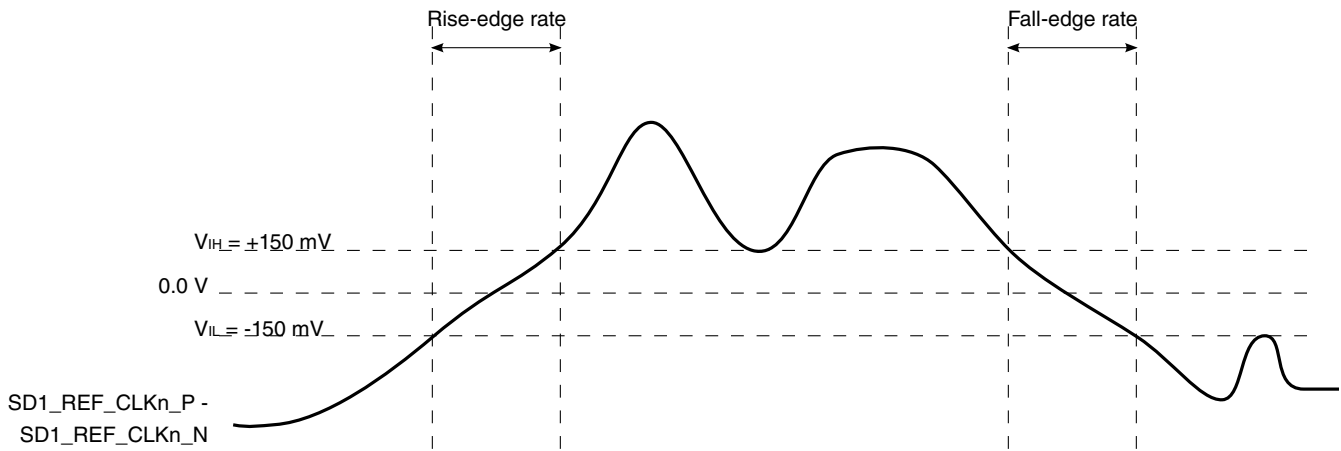

Figure 93. Differential measurement points for rise and fall time
- Measured from -150 mV to +150 mV on the differential waveform (derived from SD1_REF_CLK n _P minus SD1_REF_CLK n _N). The signal must be monotonic through the measurement region for rise and fall time. The 300 mV measurement window is centered on the differential zero crossing. See Figure 93.